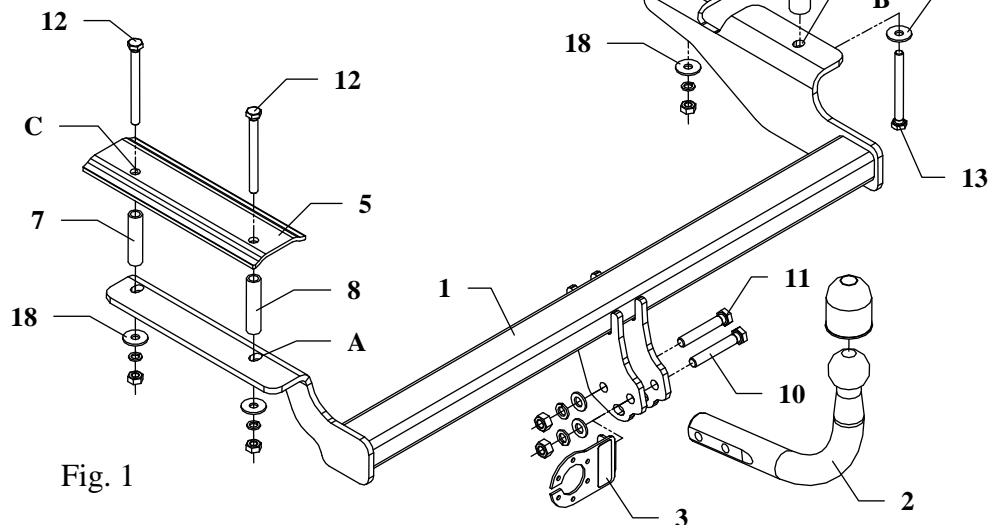
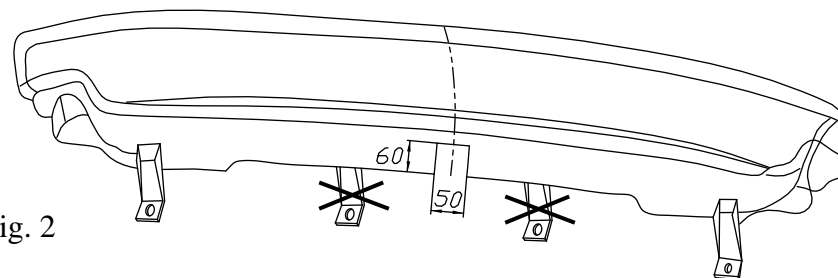

Fig. 1
Fig. 2
1. Disassemble rear lights unit and bumper. Cut out handles of the bumper and saw off fragment in its axis according to figure 2.
4. Underneath the car drill holes A and B into boot using bit  $\varnothing 11\text{mm}$ . Inside boot apply fish-plates (pos. 4 and 5). Mark holes C and D. Remove fish-plates and drill marked points C and D by bit  $\varnothing 11\text{mm}$ .
7. Into drilled holes put suitable distance sleeves (pos. 6, 7, 8 and 9) as shown in the drawing.
8. Inside boot apply fish-plates (pos. 4 and 5). Put in bolts M10x110mm (pos. 12) and M10x100mm (pos. 13).
9. Underneath the car, on protruding bolts apply main bar of the towbar (pos. 1) and fix as shown in the drawing.
11. Fix tow ball (pos. 2) using bolt M12x75mm (pos. 10) and M12x70mm (pos. 11). With bolt M12x75mm fix also a socket plate (pos. 3). See figure 1.